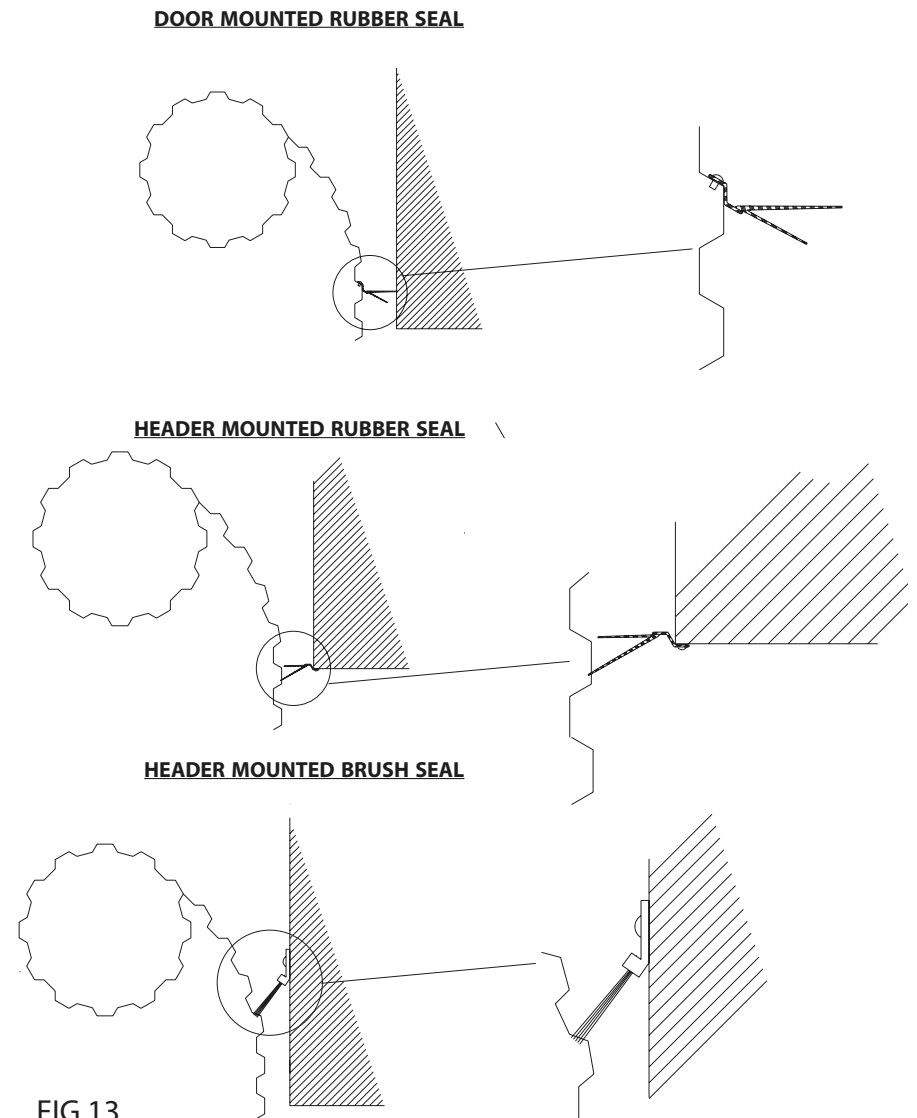

FIG 13
- With door closed, mark attachment point for header seal on curtain (Figure 13).